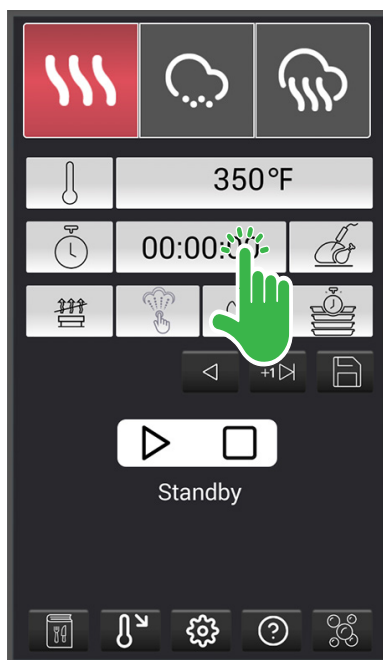
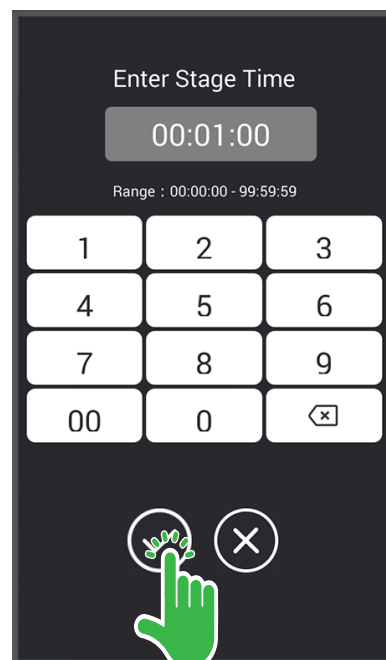

Fig. 26
Fig. 27
- Touch the Timer Setting Display (Fig. 26) and enter the desired time on the **Timer Adjustment Screen** (Fig. 27). Touch OK.